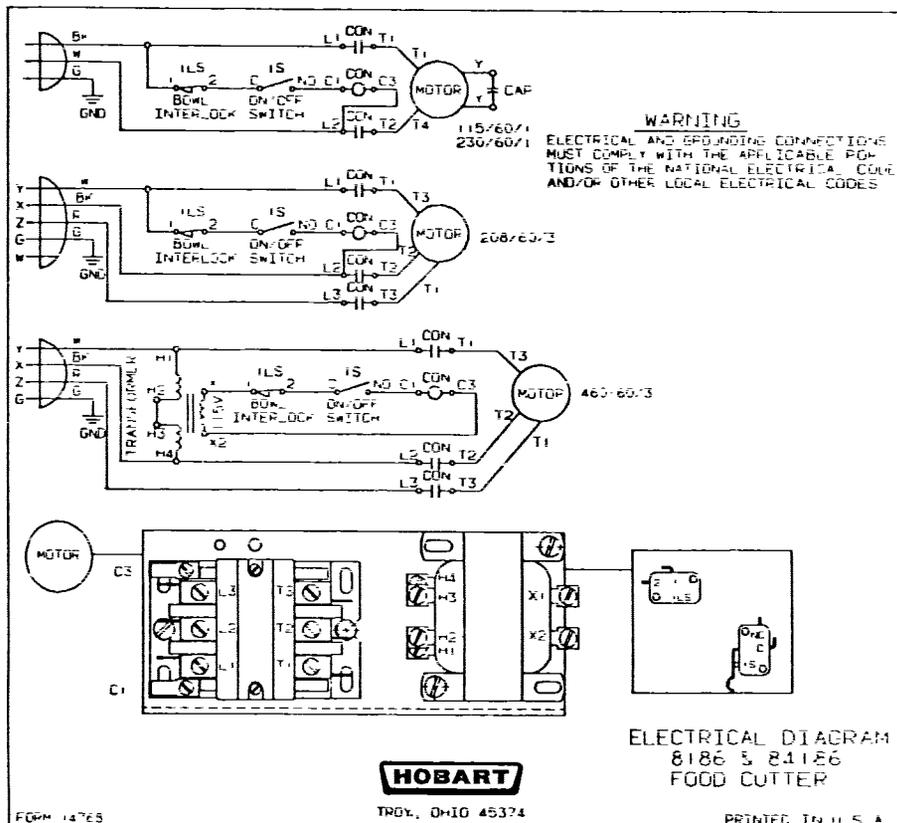

Fig. 4-1
2. Circuit Operation (Fig. 4-1).